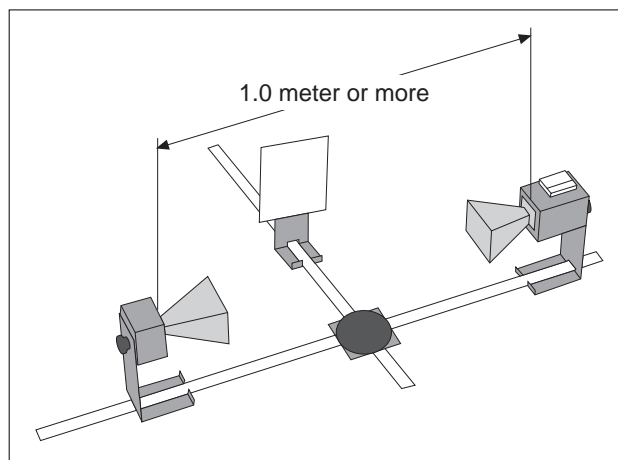
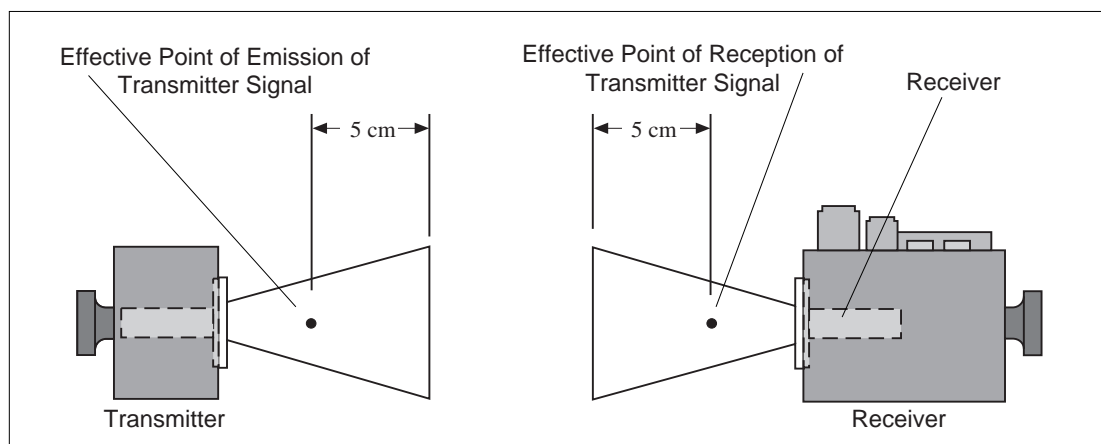

Figure 7.2 Equipment Setup
Figure 7.3 Transmission and Reception Points
- ① Arrange the equipment as shown in Figure 7.2. For best results, the Transmitter and Receiver should be as far apart as possible. Be sure the Receiver and Transmitter are equidistant (d_1) from the center of the Goniometer degree plate and that the horns are directly facing each other. (See Figure 7.3 for location of effective points of transmission and reception). Also be sure that the surface of the Reflector is parallel to the axis of the Transmitter and Receiver horns.
- ② While watching the meter on the Receiver, slowly slide the Reflector away from the Degree Plate. Notice how the meter reading passes through a series of minima and maxima.
- ③ Find the Reflector position closest to the degree plate which produces a minimum meter reading.
- ④ Measure and record h_1 , the distance between the center of the degree plate and the surface of the Reflector.